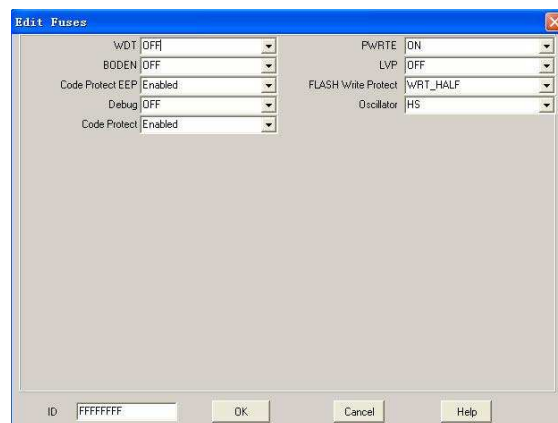

Figure 6-9 Config Information
- 4) Execute menu command Option View/Edit fuses AND ID or "Fuses" button to set the parameters. After that the interface will be shown as Figure 6-9. Click OK to save the settings.